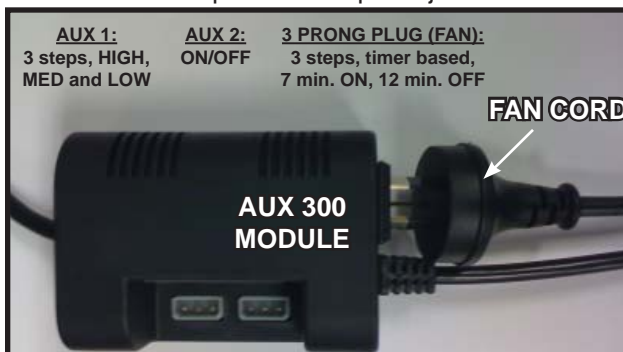

Figure 45. Plug Fan into AUX300CE Module
- Insert the 3 prong plug from the fan into the receptacle located in the AUX300CE module. See Figure 45.